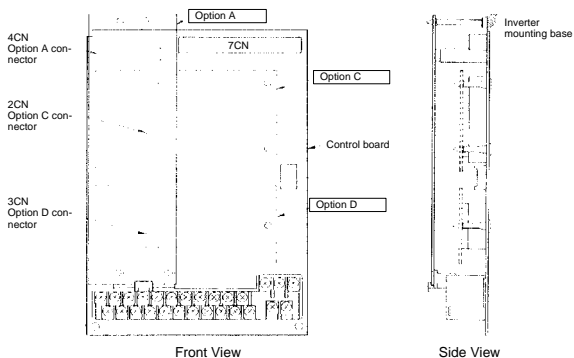

Fig 7.15 Installation Locations for Option Cards
3. Check the Option Card's installation location (A, C, or D). (See *Figure 7.15*.)